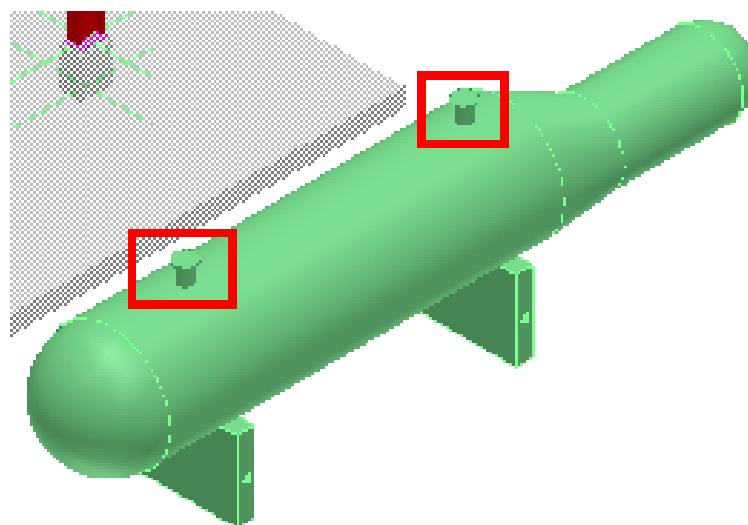

Figure 7. 10: Output - Equipment After Placing Both Nozzles
9. Switch to the **Location** tab and select **Radial** in the **Placement Type** drop-down list, define the properties as 18 ft for **N1**, 4 ft for **N2**, and 270 degree for **OR1**. Click **OK**. This places the second nozzle as shown in Figure 7. 10.